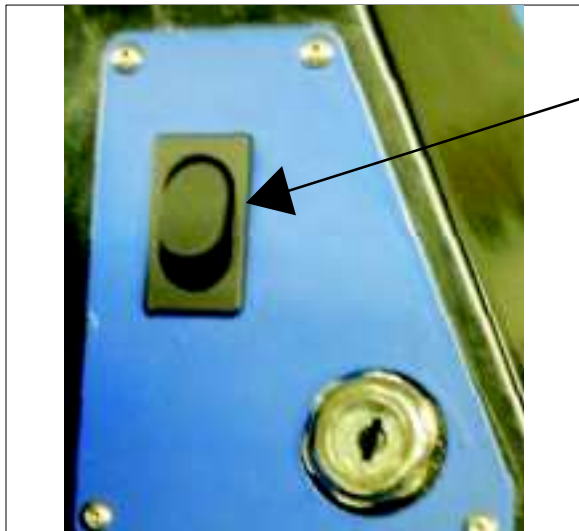

Figure 10
**SIDE BROOM and MAIN BROOM SWITCH (See Figure 10)**